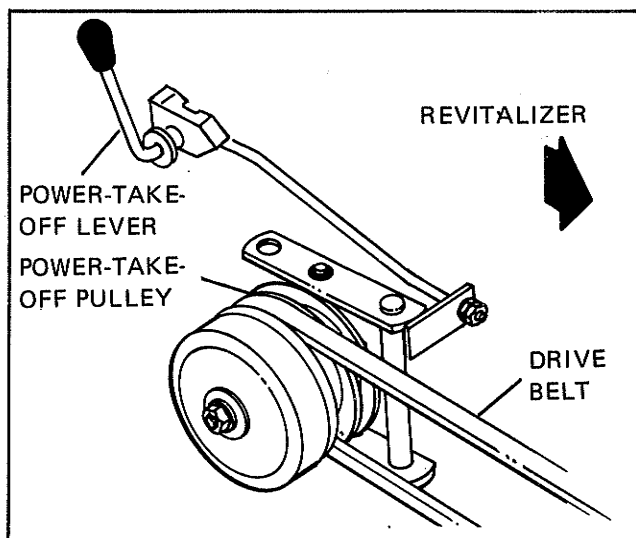

Figure 4.
5. See Figure 4. Install the revitalizer drive belt over the power-take-off pulley of the tractor. The belt should be used in the outside groove of the pulley.